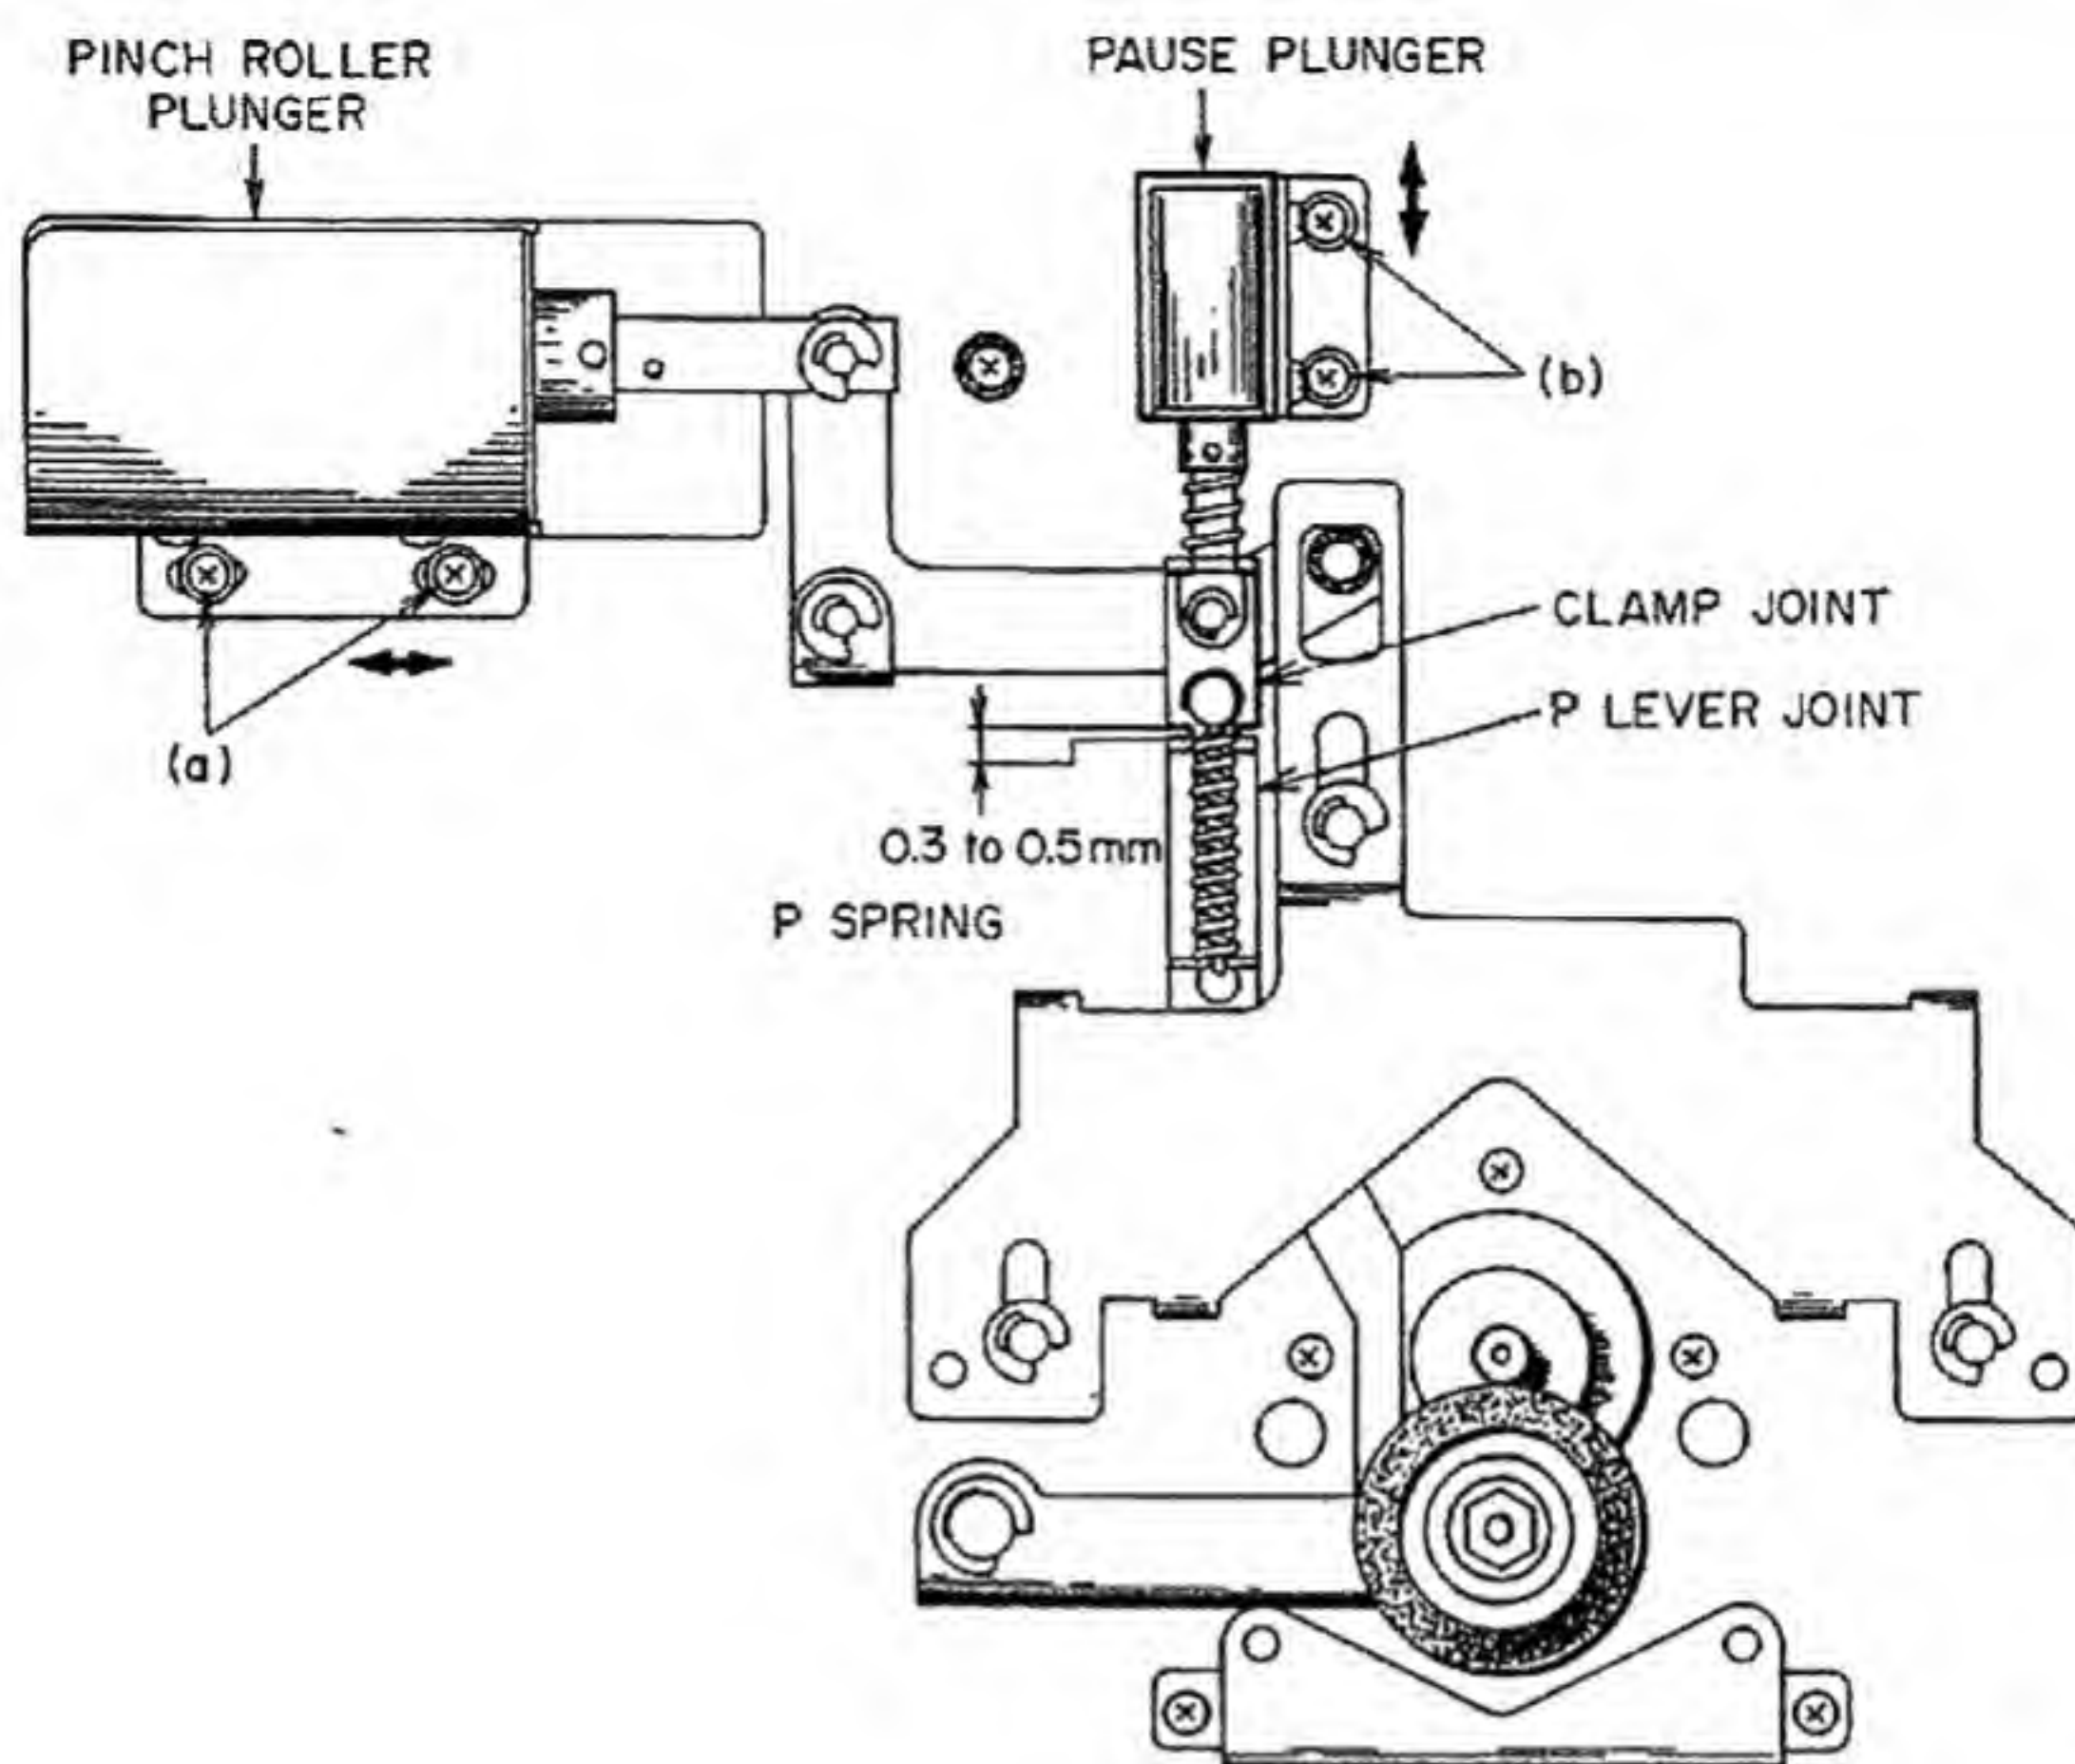

Fig. 39
6. PINCH ROLLER POSITION ADJUSTMENT (Refer to Fig. 39)
7. PAUSE PLUNGER POSITION ADJUSTMENT (Refer to Figs. 39, 40)